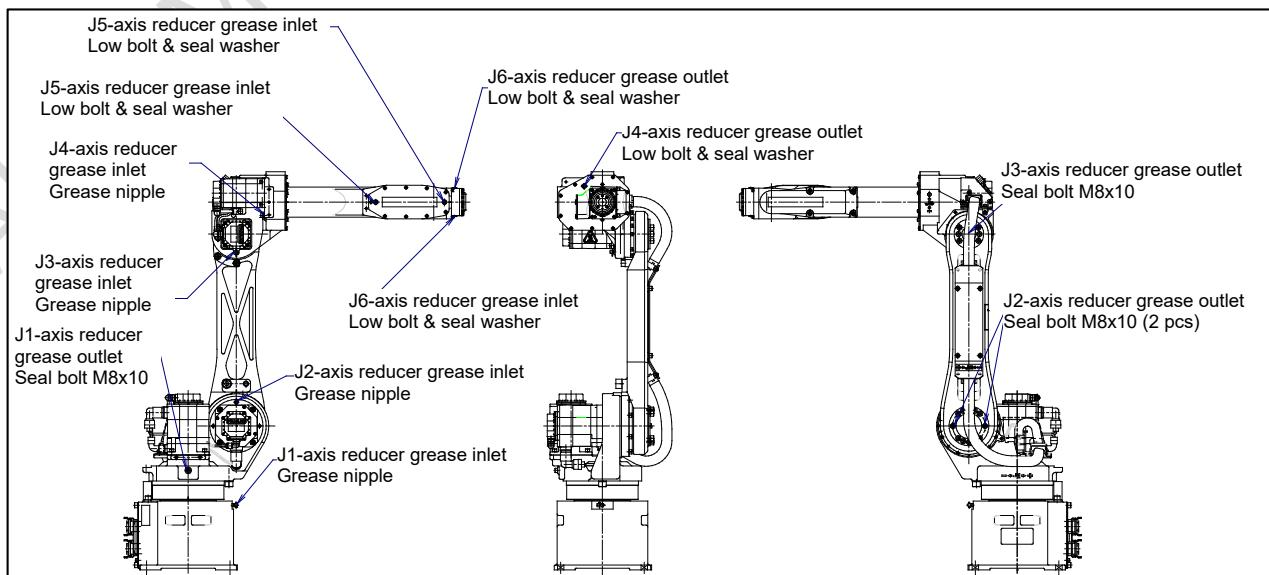

Fig. 3.1 (a) Greasing points
- ii) See Fig. 3.1(a) and Table 3.1 (a) for greasing points and the method.
Follow the procedure stated below to replace the grease in the J1, J2, and J3-axis reducers and the J4 and J5-axis gearboxes at the intervals based on every 3 years or 11520 hours, whichever comes first. See Fig. 3.1 (a) for greasing points.
- 1) Remove the seal bolts from the J1, J2, and J3-axis grease outlets shown in Fig. 3.1 (a). Also remove the flat-bolts and sealing washers from the J4 and J5-axis grease outlets.